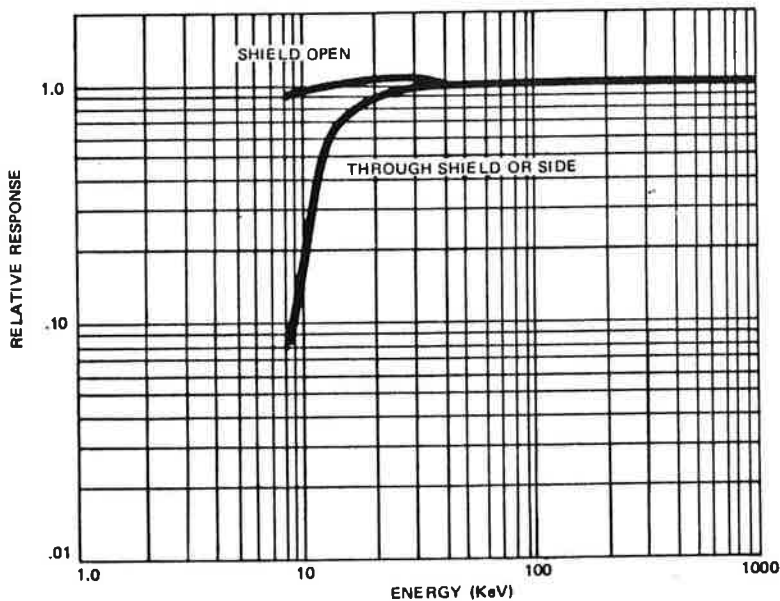

Figure 1-2. Photon Energy Response
- h. Photon Energy Response: Nominal  $\pm 15$  percent from 6.5 keV to 1.2 MeV. (See Figure 1-2.)